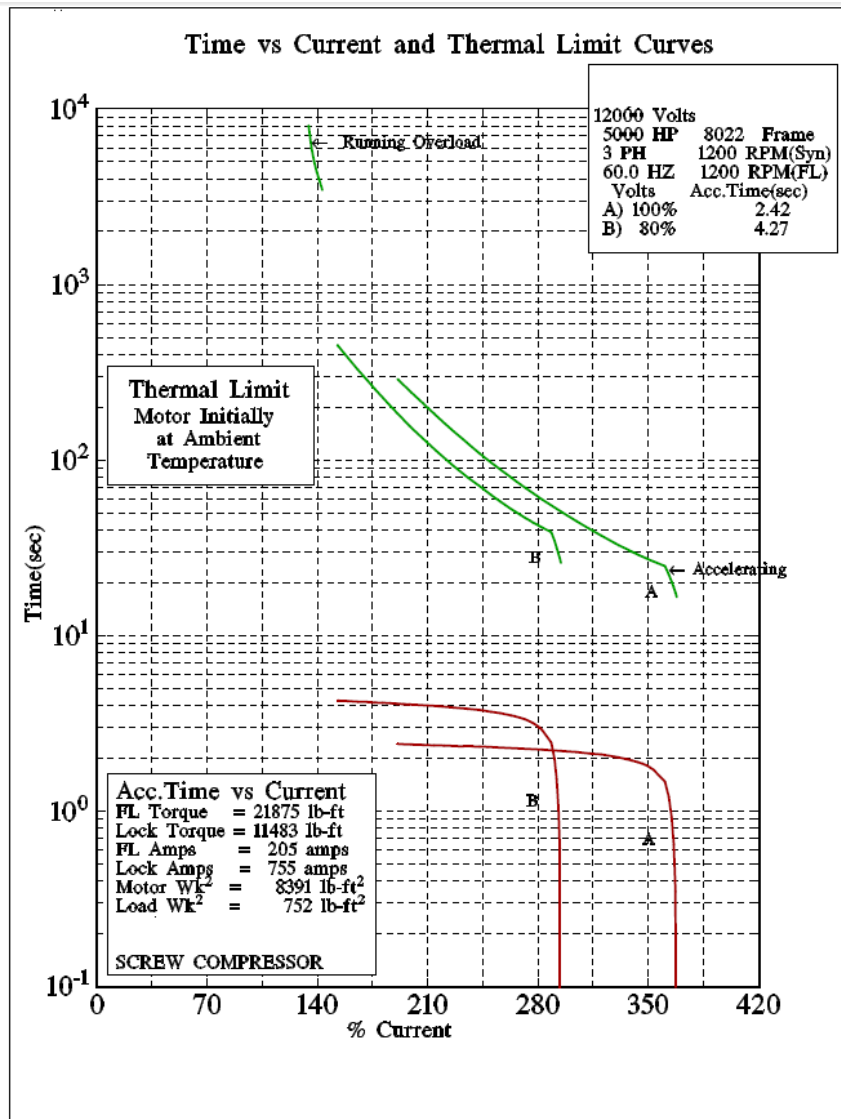
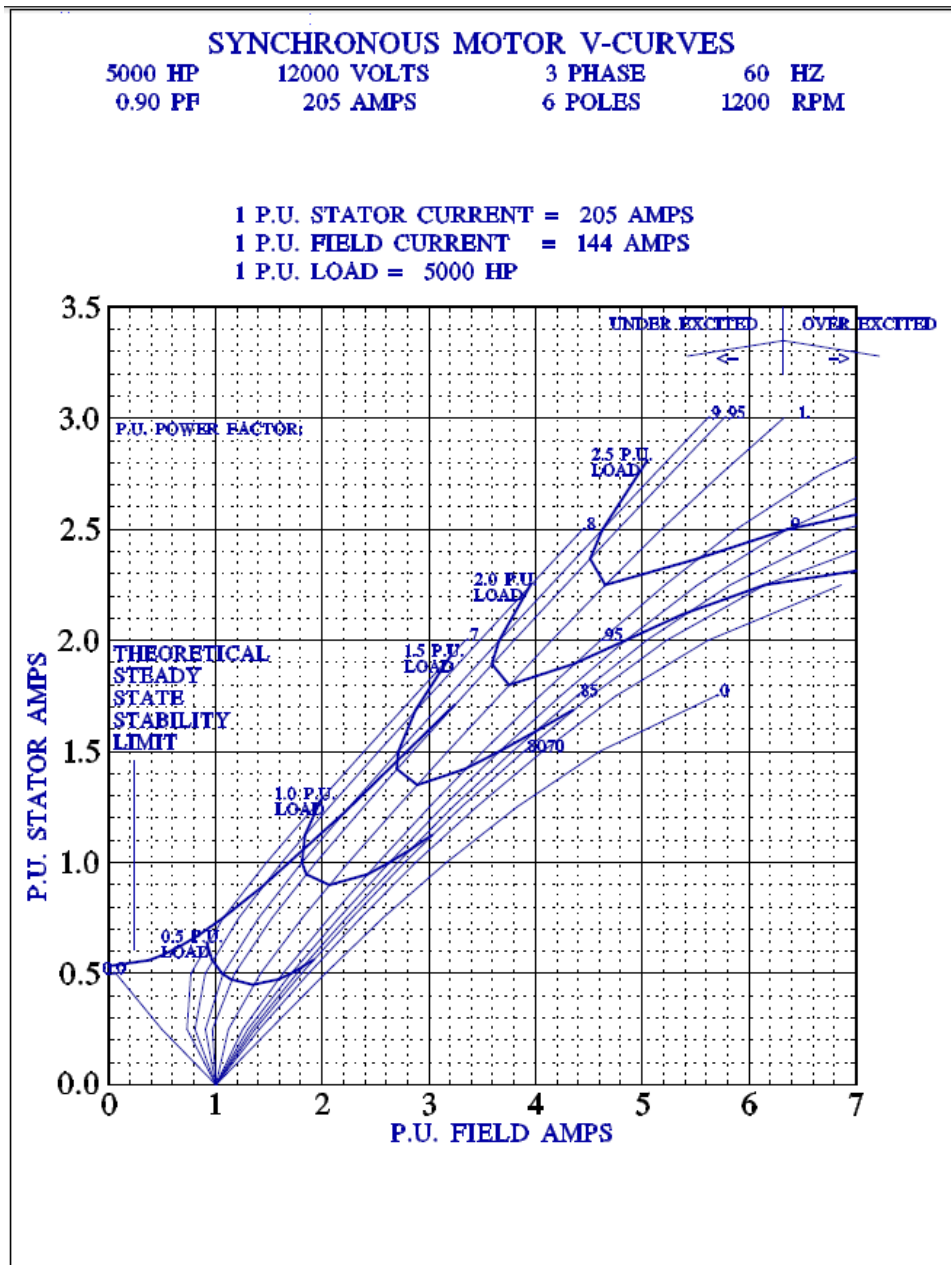
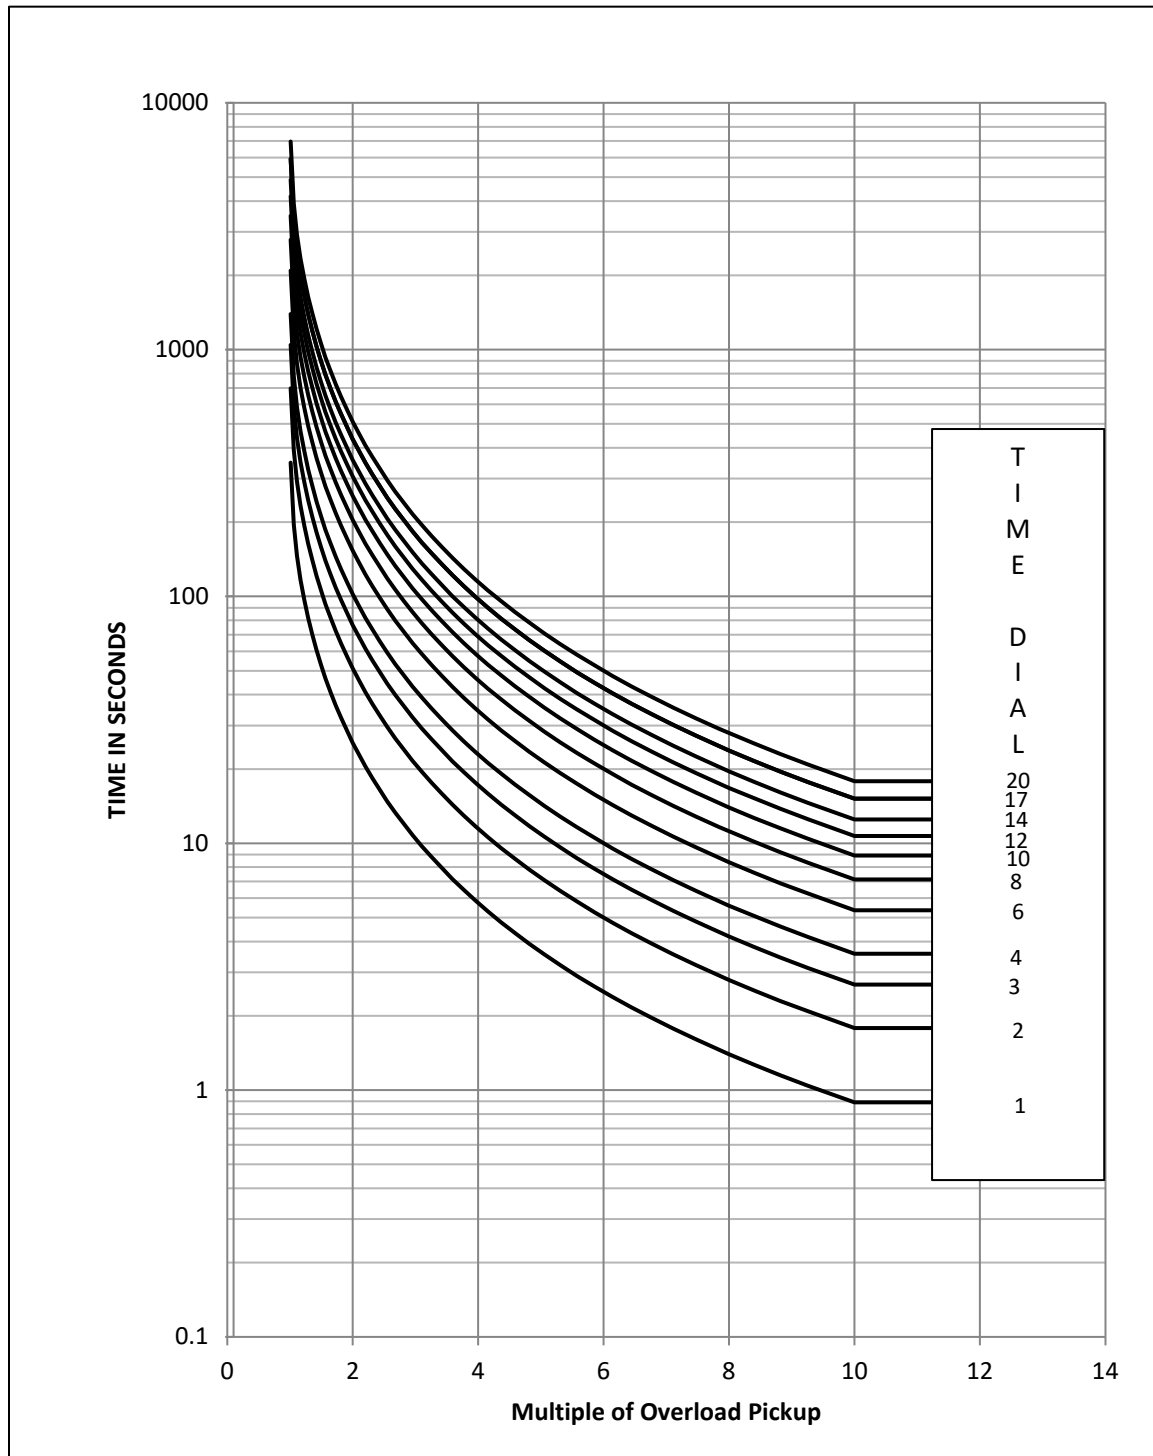

Figure 84-31. Time vs. Current and Thermal Limit Curves
Figure 84-32. Synchronous Motor V Curves
Figure 84-41. Standard Curves
The required motor curves are shown in Figure 84-31. Curve A shows the thermal limits at 100 percent of the starting voltage. Curve B shows the thermal limits at 85 percent of the starting voltage. Figure 84-32 shows the synchronous motor V curves indicating operational parameters of load an power factor.
- **Overload** - By default, the thermal model begins timing towards a trip when the effective motor current exceeds SF (Service Factor) • FLA (Full Load Amps). The Overload setting adjusts the pickup level between 90 and 120 percent of SF • FLA if needed for the motor application; resulting in a total pickup equation of S • SF • FLA. In this example, Overload (S) is left at the default setting of 1.00.
- **Standard Curve Time Dial** - Examine the motor manufacturer's data and select a curve time dial to coordinate closely with the curve shown in Figure 84-31. Motor thermal limits have three parts based on three operational conditions: 1) locked rotor or stall, 2) starting or acceleration, and 3) running overload. The overload protection curve should be set slightly lower than the thermal limits provided by the manufacturer to ensure that the motor is tripped before reaching the thermal limit. Examine Figure 84-41 to determine the standard curve time dial that best coordinates with the motor running